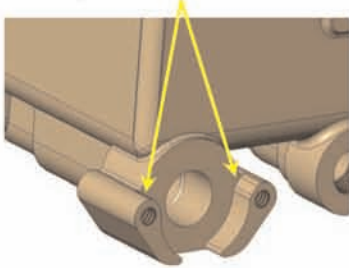

FIGURE 4
- c. Examine the mixture valve stops for wear in the areas shown in Figures 4 & 5. The maximum permissible wear depth is .046 inch.